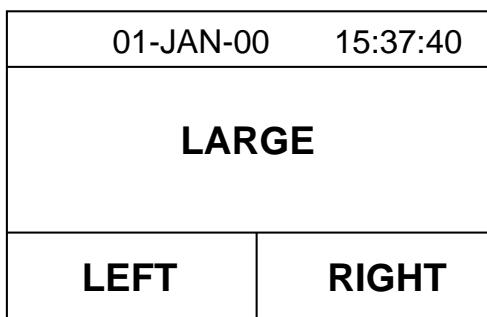

Figure 3-7 Location of nav data indications
- Select the items LEFT and RIGHT and set their options like you did for LARGE, referring to Figure 3-7 for location of indications.